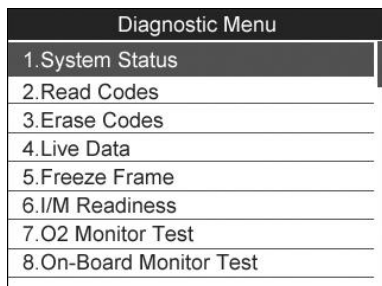

Figure 5.3
- 7) View a summary of system status (MIL status, DTC counts, Monitor status) on screen. (Figure 5.1) Press **ESC** button for **Diagnostic Menu** (Figure 5.3) to come up.
- 1) Use **UP/DOWN** scroll button to select **Read Codes** from **Diagnostic Menu** and press **OK** button. (Figure 5.3)
- 1) Use the **UP/DOWN** scroll buttons to select **Erase Codes** from **Diagnostics Menu** and press the **OK** button. (Figure 5.3)
- 1) To view live data, use the **UP/DOWN** scroll button to select **Live Data** from **Diagnostic Menu** and press the **OK** button. (Figure 5.3)